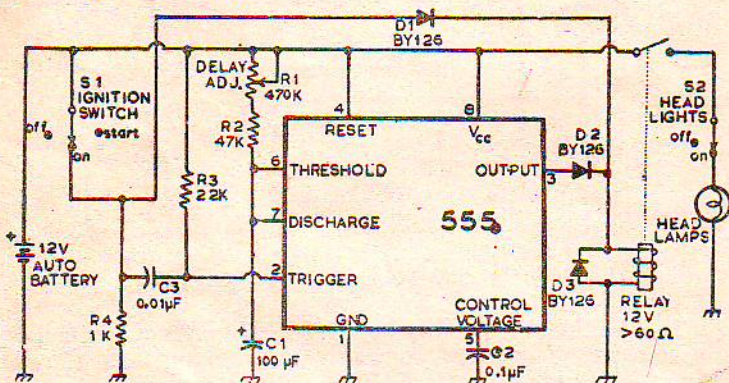

Fig. 15(A). Automatic Headlights Turnoff
In Fig. 15(A) when the ignition is first switched on, the battery voltage is fed to the relay coil through diode D1. Switching off the ignition generates a negative-going pulse on pin 2 that triggers the timer. The output of the IC goes high to energise the relay and keep the headlights on long enough for you to leave the garage. With the values shown the delay is adjustable from approx. 10 seconds to 1 minute.